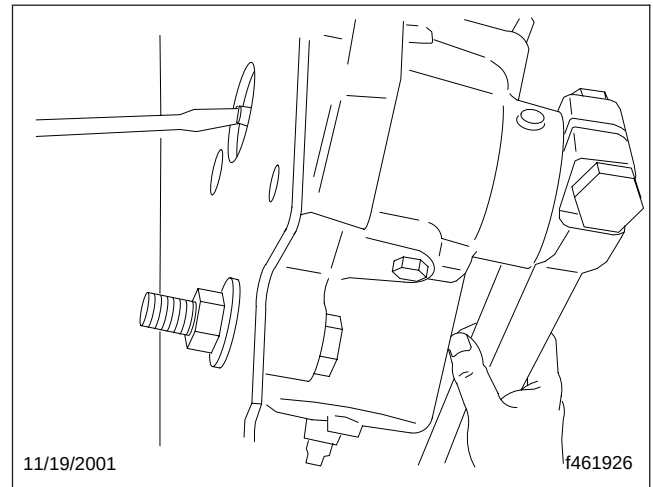

Fig. 1, Adjusting the Sector Shaft
6. If no lash was detected in step 4, use a screwdriver to turn the sector shaft adjusting screw counterclockwise until you feel lash at the sector shaft. See Fig. 1.